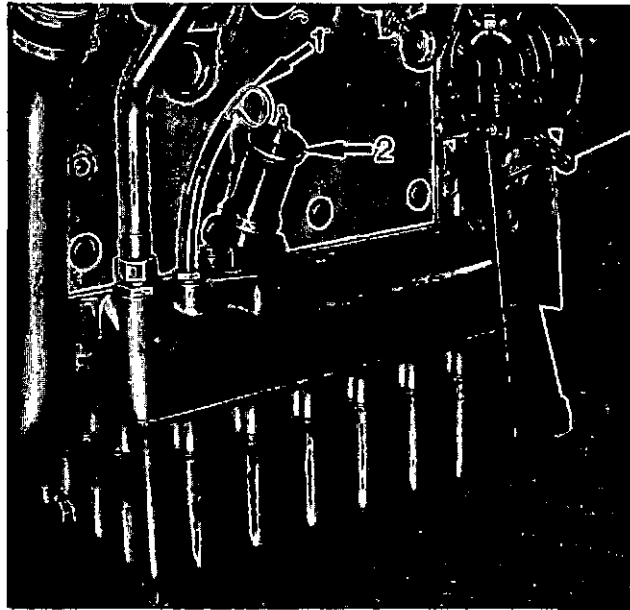

Fig. 1. Dipstick and oil filler
8. Fill the sump to the UPPER mark on the dipstick (fig. 1) with the correct grade of lubricating oil. (See leaflet T.S.D. 3085).